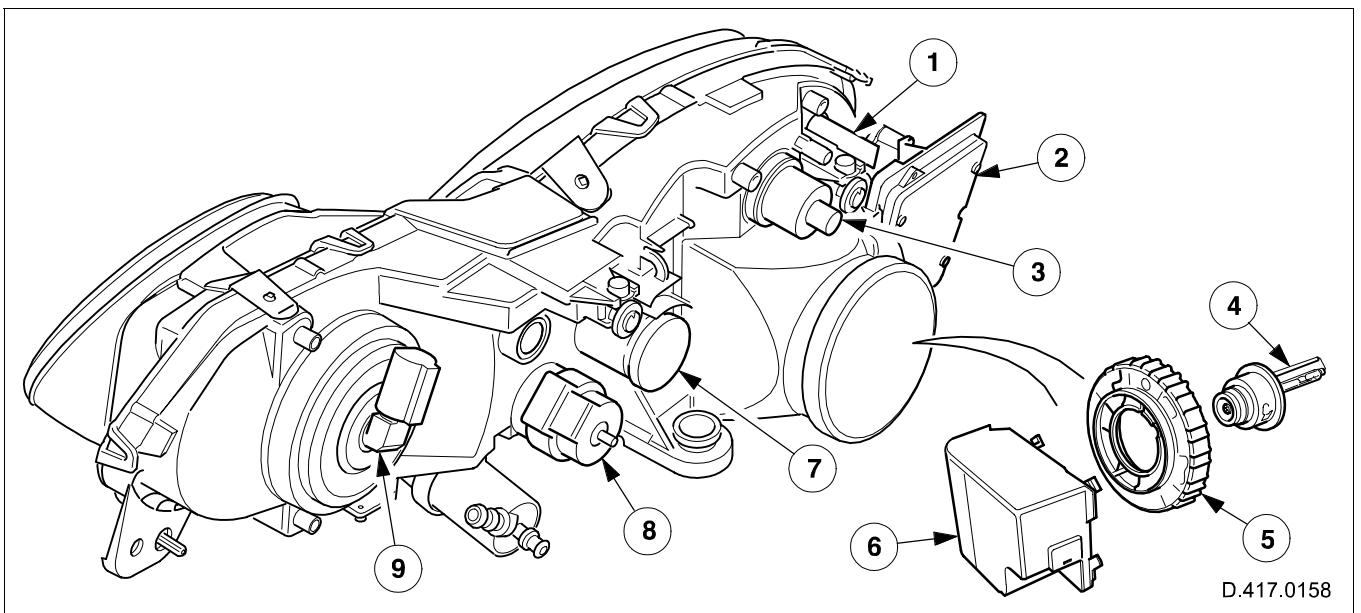

Fig. 93 High-intensity discharge lamp assembly
A lever-operated shutter has been incorporated into the headlamp assembly to permit simple switching of the headlamp beam position to meet foreign driving regulations. The lever is located behind the access cover (item 7) Fig. 93.